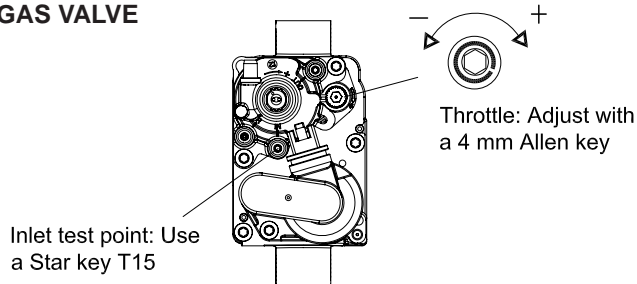

Fig. 35
- 2 - Check gas mains pressure at the gas valve test nipple upstream (fig.35) with boiler operating (sect.6.8).
Check the gas mains pressure at the gas valve inlet pressure test point (fig.35) with the boiler operating at full rate.
**The Gas Valve Throttle adjuster is required to be sealed with tamper proof paint after adjustment (fig. 35).**
**IMPORTANT:** Any adjustment to the gas valve should only be carried out by a qualified person. Referring to the table 10, adjust the maximum level of CO2 with the Throttle using a 4 mm hex on the gas valve (fig.35). Anti-clockwise to decrease CO2. Clockwise to increase CO2. After any new regulation wait to stabilise for about one minute. Replace the front cover.